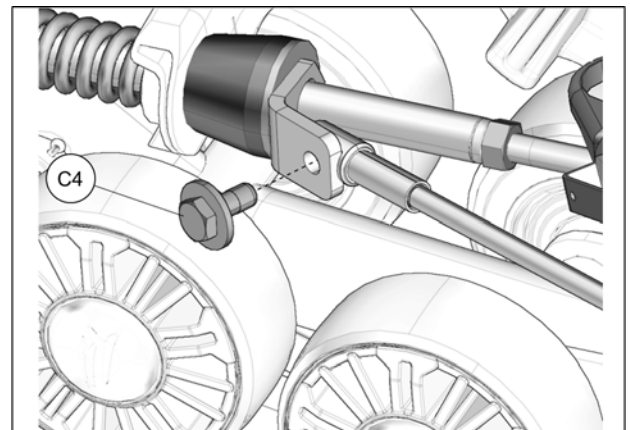

Fig. 25
14. Reverse steering wheel a little to be able to bolt support plate and cable together. Tighten provided bolt (C4) to 35 N•m [24 lb•ft]. See Fig. 25. Repeat steps on right side.